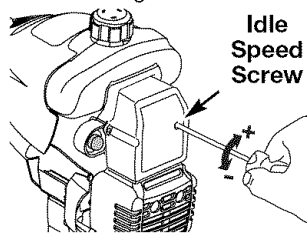

Fig. 23
The idle speed of the engine is adjustable through the air filter/muffler cover (Fig. 23).
- Release the throttle trigger and let the engine idle. If the engine stops, insert a small phillips or flat blade screwdriver into the hole in the air filter/muffler cover (Fig. 23). Turn the idle speed screw in, **clockwise**, 1/8 of a turn at a time (as needed) until the engine idles smoothly.